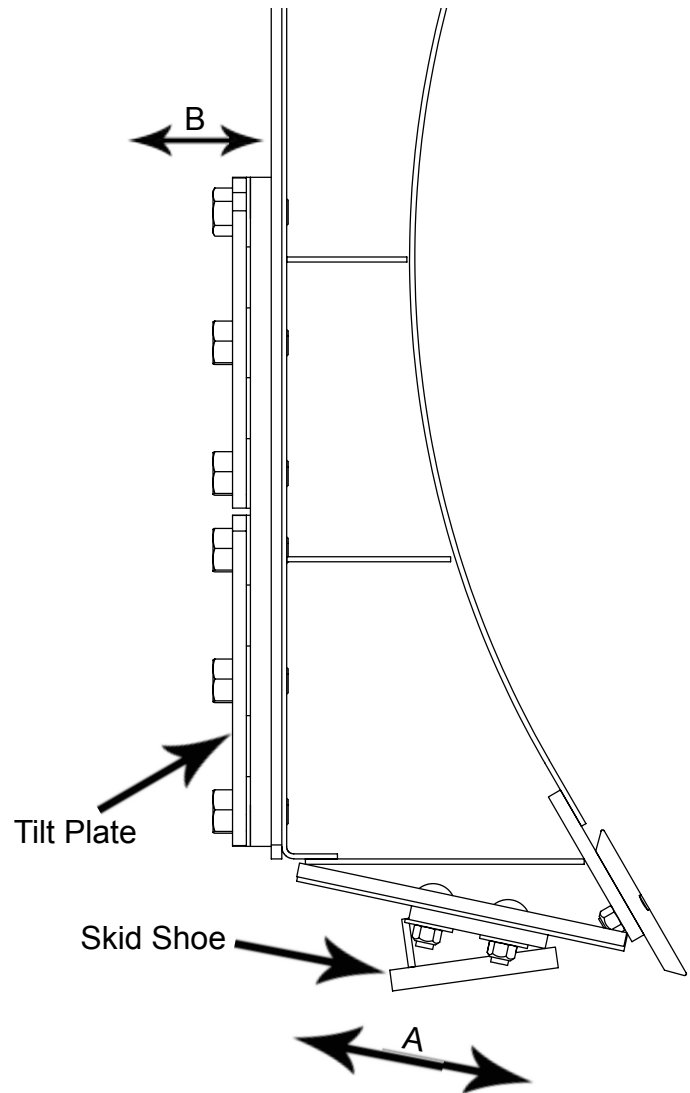

Figure 1
2. Loosen nuts and set skid shoe depth by sliding the shoe back and forth in direction 'A' shown in Figure 1.
2. Add or remove washers as needed to adjust tilt-way clearance to have $1/16''$ - $1/8''$ of clearance in direction 'B' shown in Figure 1.